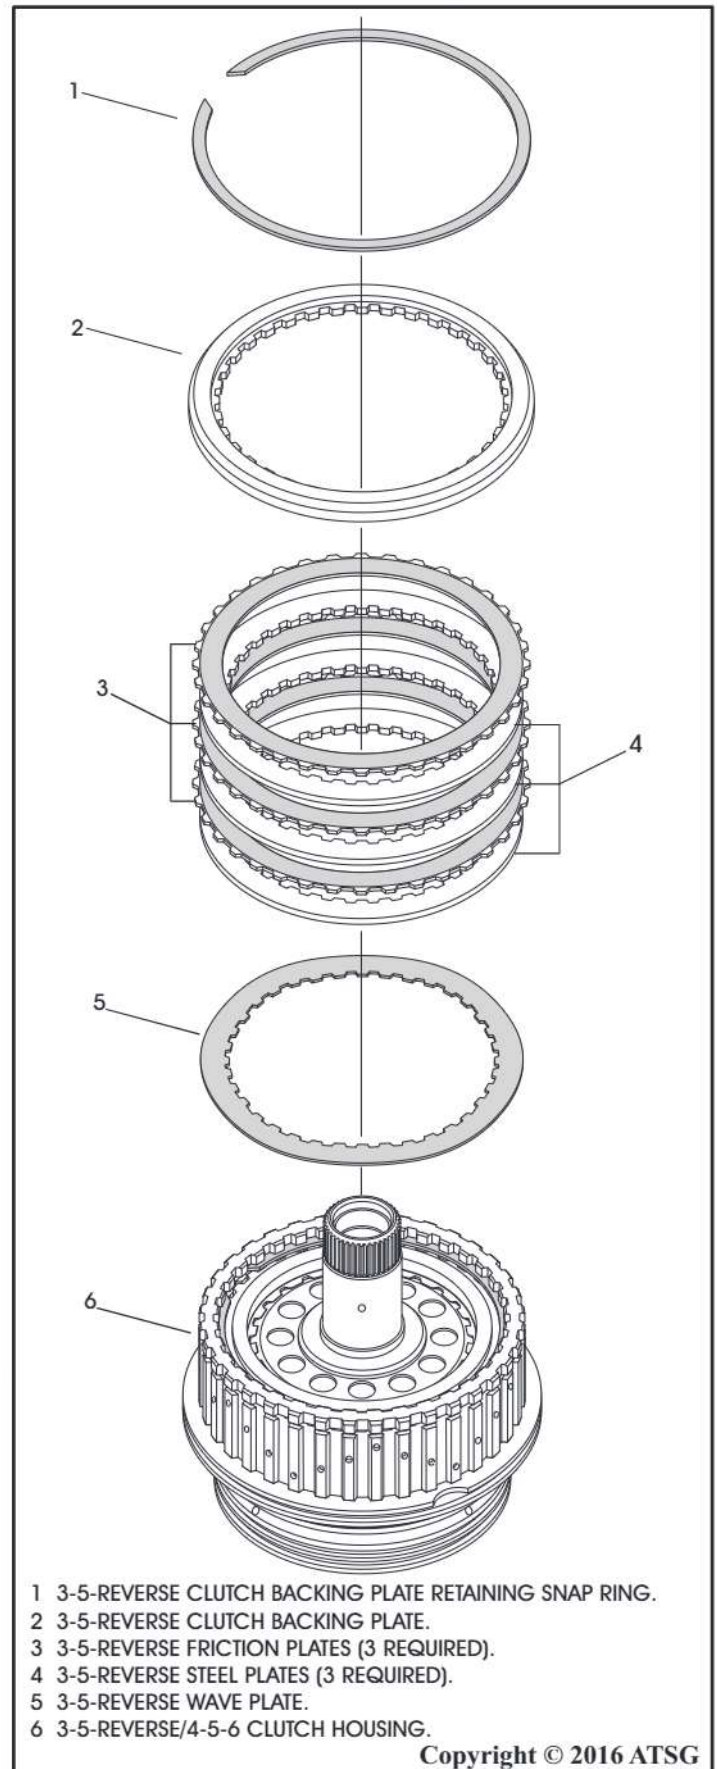

Figure 94
21. Remove the 3-5-Reverse clutch backing plate retaining snap ring as seen in Figure 94.
22. Remove the 3-5-Reverse clutch backing plate as seen in Figure 94.
23. Remove the 3-5-Reverse friction and steel plates as seen in Figure 94.
24. Remove the 3-5-Reverse wave plate also seen in Figure 94.